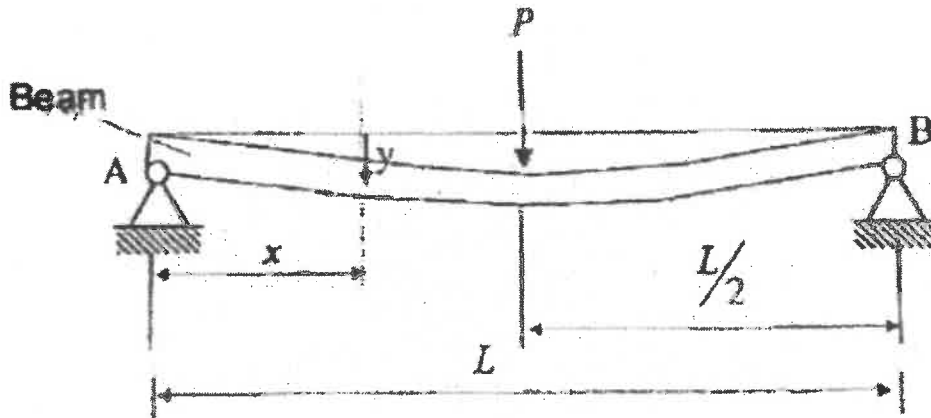

Figure 4: Three Point Bending
*Refer Below - Figure4 : Three Point Bending .*